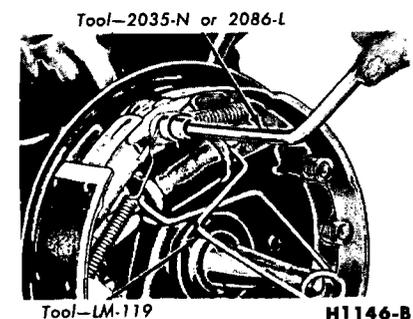

FIG. 16—Retracting Spring Removal—Typical
1. With the wheel and drum removed, install a clamp over the ends of the wheel cylinder as shown in Fig. 16.
2. Remove the brake retracting springs using Tool 2035-N or 2086-L (Fig. 16).